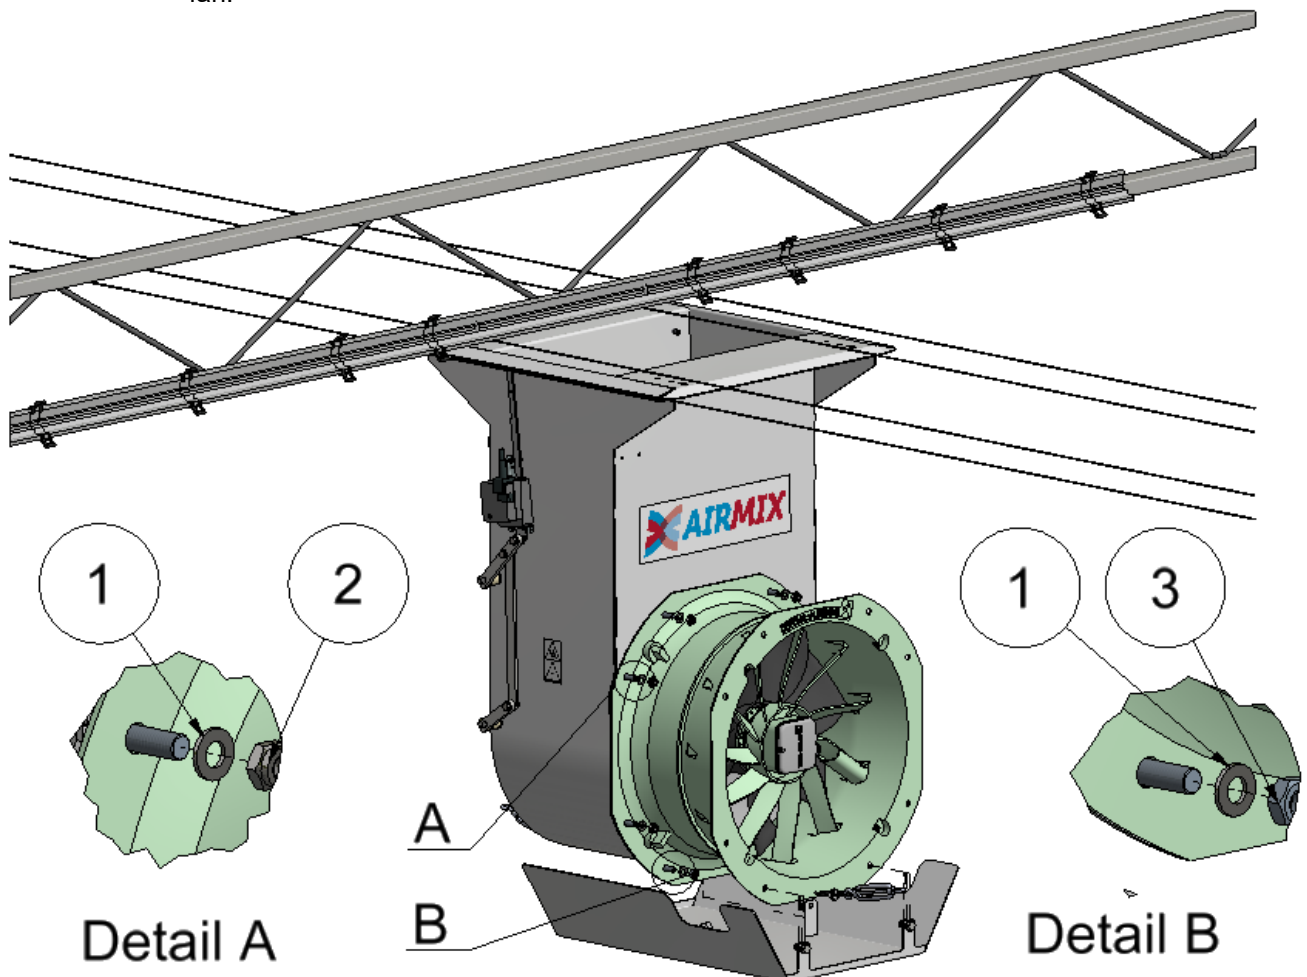

Figure 5 Attaching the fan to the Airmix
- Assembly (see Figure 5);
- Attach the fan and the condensation collector to the aluminum Airmix housing by Inserting it over the protruding M10 threads. Then secure the fan with the supplied washers (1) and lock nuts (2);
- You can use the two standard nuts (3) at detail B. At this location it is more difficult to tighten the self-locking nuts because of the condensation collector.